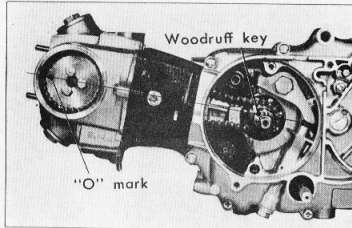

Figure 3-17. Removing cam sprocket
- (1) Drain the oil
- (2) Remove the flywheel and stator assemblies.
- (3) Remove the 6mm hex and cap nuts holding the cylinder head cover and then remove the cover.
- (4) Rotate the crankshaft so that the piston is at top dead center, by aligning the woodruff key on the crankshaft and the "O" mark on the sprocket in line with the cylinder axis and then remove the three 5mm hex bolts. (Fig. 3-17)